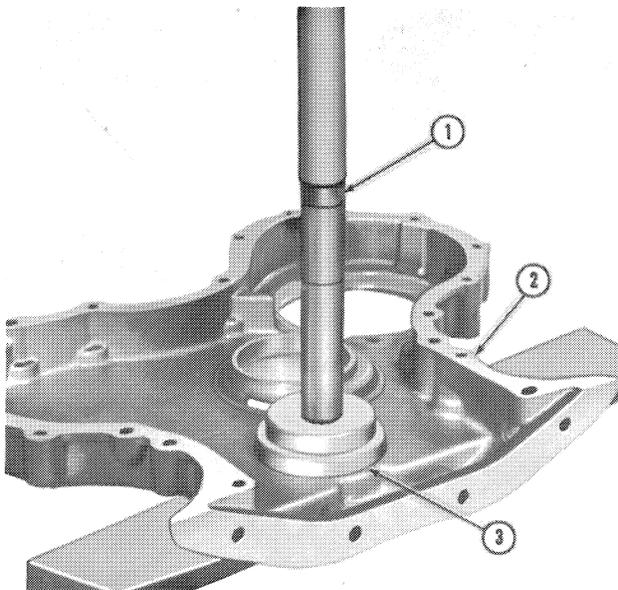

Figure 21
3. Insert the dust seal in the seal bore before installing the oil seal. Coat the new oil seal with petroleum jelly and install the seal as shown in Figure 21. To install the seal, use Step Plate No. 630-T and a driver handle. Drive the seal in until it is fully seated in the seal bore. Check after installation to be sure the spring is properly positioned in the seal.